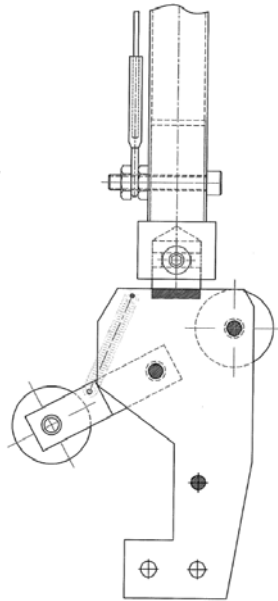

Figure 3. Bottom Wheel Assembly with Safety Cable
1. Connect the safety cable to the bottom wheel assembly. (See Figure 3) This is strongly recommended. Not only can it be used to retrieve the assembly in the event that one of the joints breaks loose, but it is also very useful in lowering the assembly into the casing. The alternative is to hold the tube sections with vice-grips at the top of the casing.
The bottom anchor is labeled and has no Universal joint, just the swivel. The safety cable has a loop at its bottom end which fits over the long bolt used to hold the bottom anchor to the first tube section. This is shown in Figure 3. The cable eyebolt is trapped between two nuts.